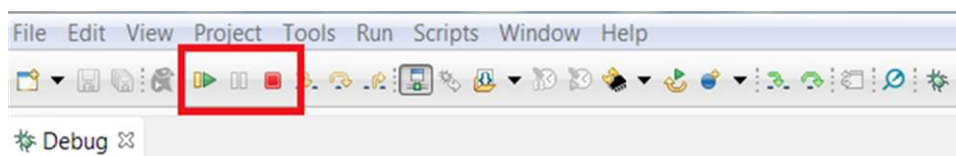

Figure 25. Run and Pause Debug Session
Step 8. When the CCS software is connected to the device, run the program from CCS to execute the program in hardware by clicking the green play button (see Figure 25). Click the red stop button (see Figure 25) to disconnect from the device debugger.